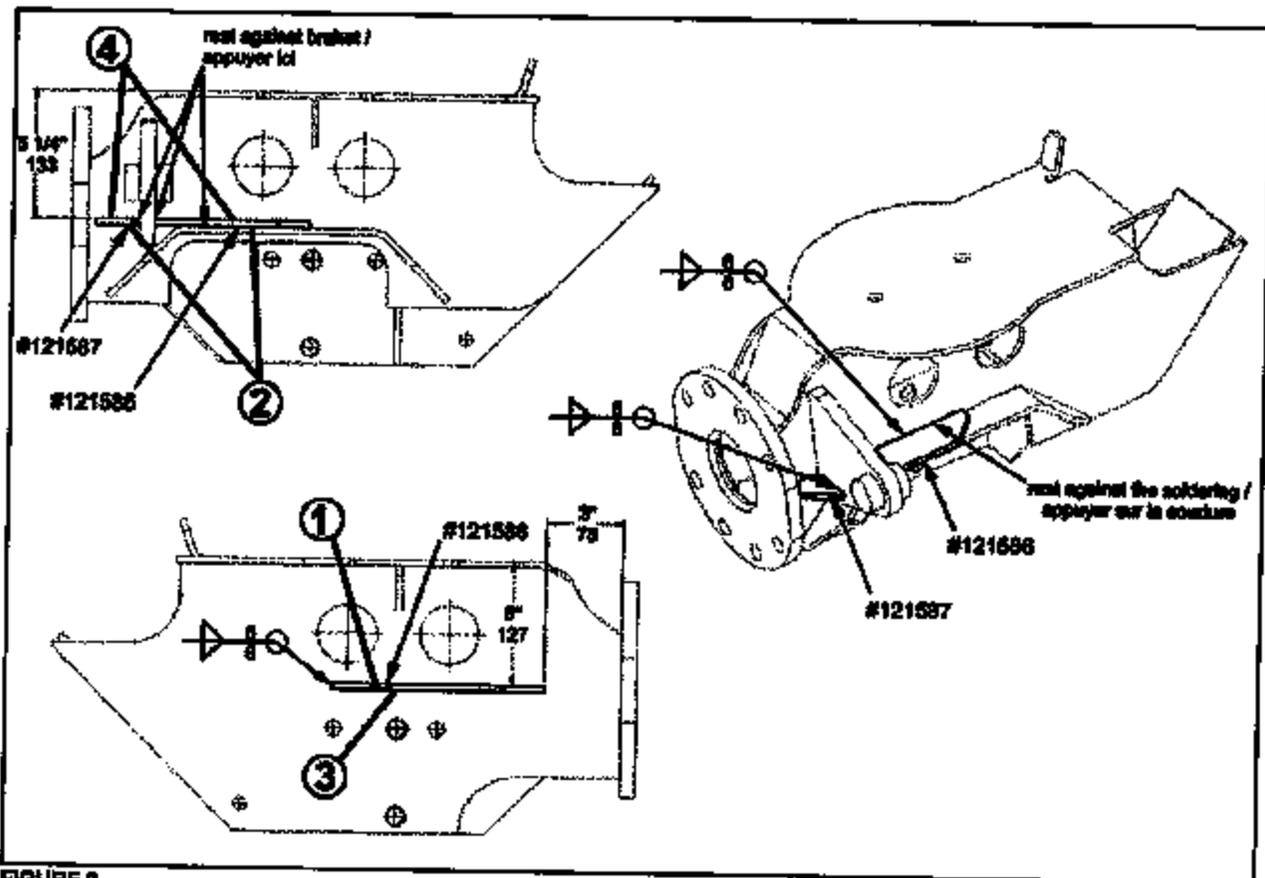

FIGURE 3
3. Check if tag axle is cracked, check if cracks are superficial by grinding the affected area to make the cracks disappear. If cracks are only superficial, chip off or grind to bare metal then reweld crack referring to paragraph: Steel – Steel Welding. Weld reinforcement parts referring to figure 3 welding specifications
4. If no cracks are present on tag axle, weld reinforcement parts referring to figure 3 welding specifications.
5. Weld reinforcement parts as per figure 3 and refer to following welding specifications:
- Install and spot weld reinforcement parts # 121586, 121587 and 121588 as per figure 3;
- (1) Weld top of reinforcement part #121588 (horizontal);
- (2) Weld under reinforcement parts # 121586 and 121587 (overhead);
- (3) Weld under reinforcement part #121588 (overhead);
- (4) Weld top of reinforcement parts #121586 and 121587 (horizontal);